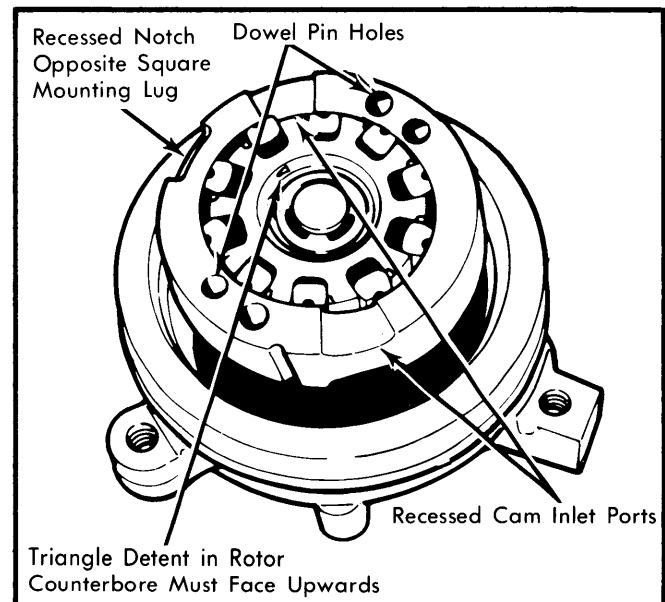

Fig. 4 Assembling Cam and Rotating Assembly
Reassembly — 1) If rotating group was disassembled, place rotor on shaft with triangle detent (See Fig. 4) facing upwards and install retaining ring at end of shaft. Place insert cam over rotor with recessed notch on cam facing upwards.
5) Install rotating assembly over dowel pins into housing. (See Fig. 4)